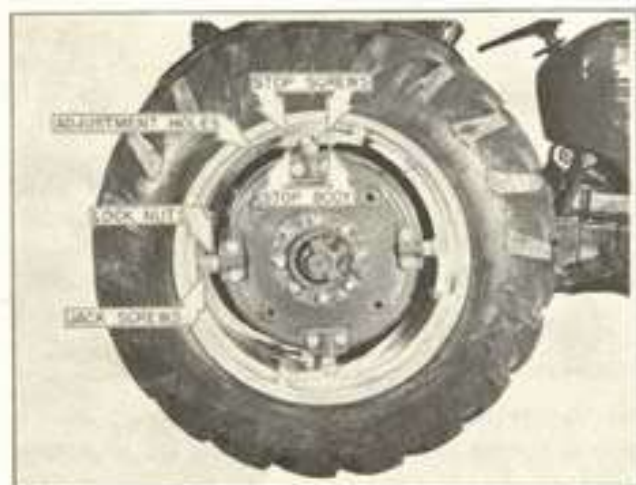

Figure 9-3 Powerjuster Rear Wheels
1. Loosen the stop screw and move the stop body to the desired adjustment hole setting or if the maximum or minimum wheel setting is desired, remove the stop body from the rim rail. (See Figure 9-3.)